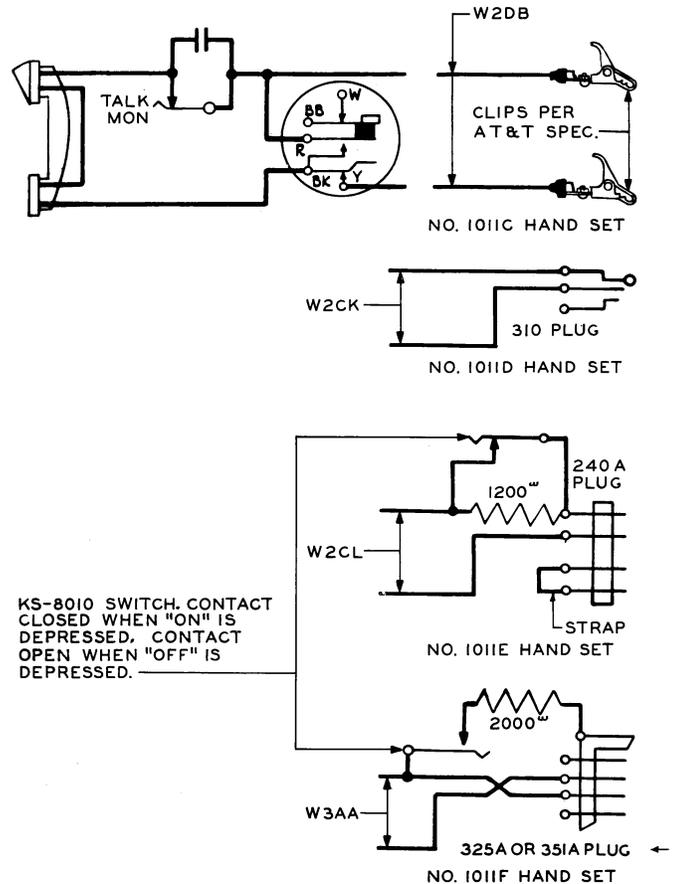

Fig. 8 - Schematics of Nos. 1011C, 1011D, 1011E, and 1011F Hand Sets
3.01 Schematics of the circuit arrangements of these sets are shown in Figs. 8 and 9.